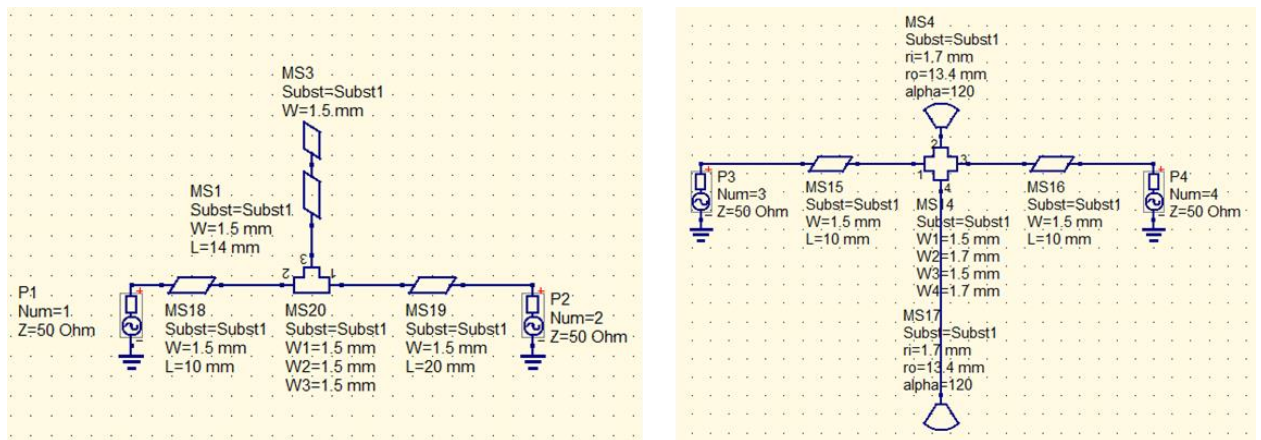

Figure 3
- 3.1 Using the structural elements which are available in the QUCS component base, recreate the circuit of the band-stop strip filter shown in Fig. 3.